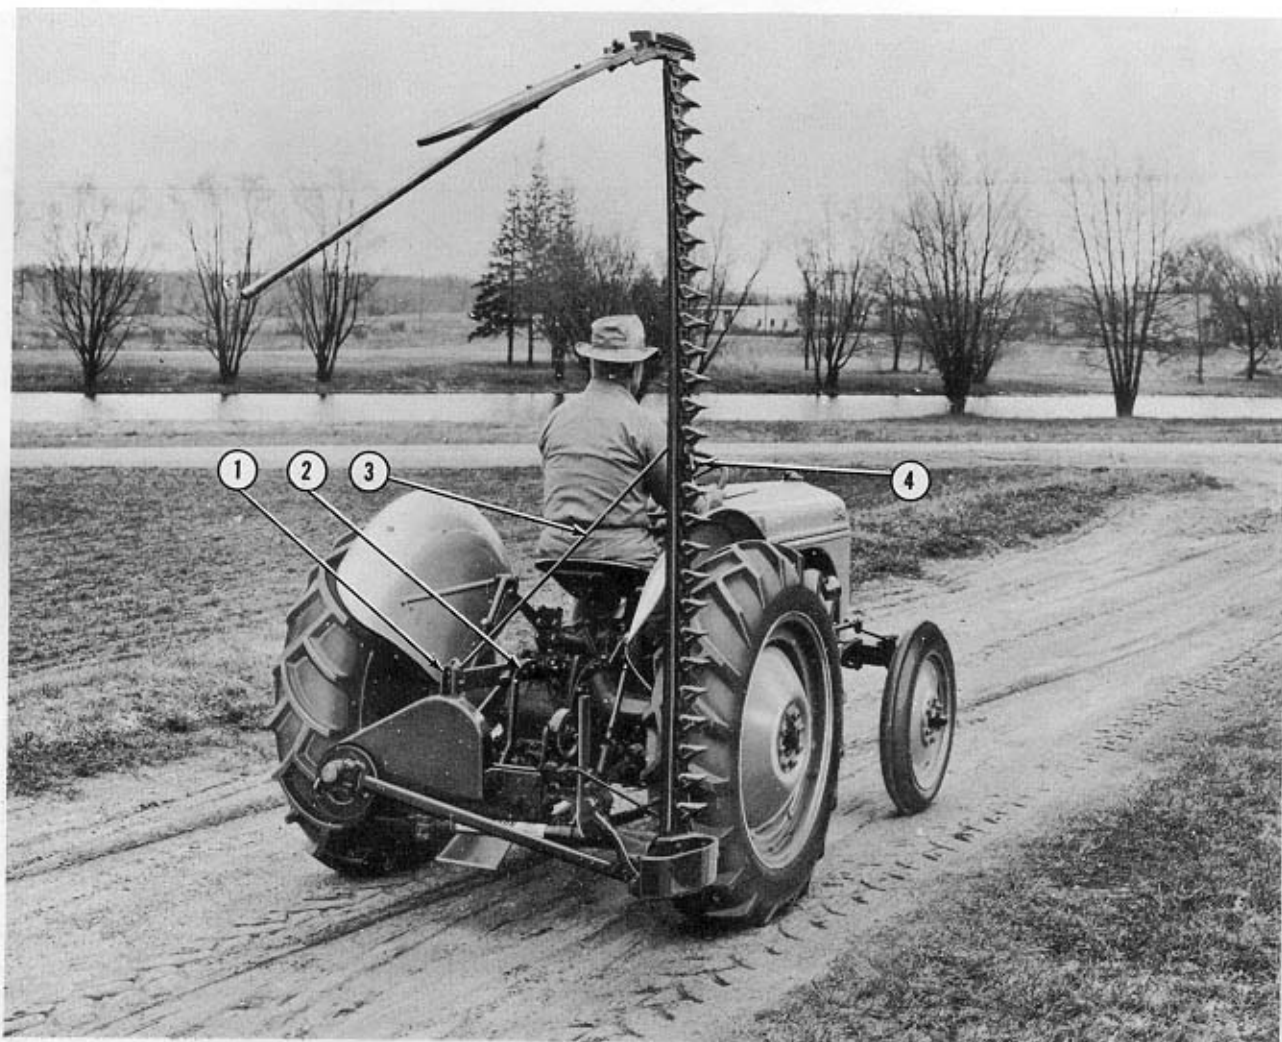

Figure 20
to the top link with the lock (2), Figure 20. Disengage the power take-off and raise the cutter bar by hand to the vertical position shown.
With the hook end of the transport rod (3), Figure 20, hooked in the hole (1) on the mower A-frame, insert the threaded end of the rod through the hole in the cutter bar and secure by screwing the handle (4) on the transport rod against the cutter bar as shown in Figure 20.